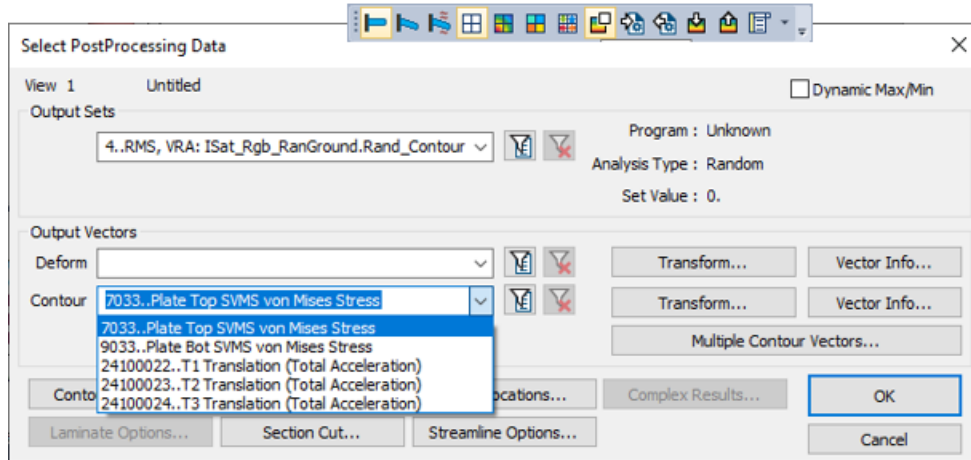

Figure 4-46. Select von Mises Stress for the first contour plot and turn off averaging.
- When the solver has finished, click the *Output* tab's **Plot Contour** button to examine the results in Femap. Use Femap's  toolbar button to open the *Select PostProcessing Data* dialog (Figure 4-46). Select *Plate Top von Mises* from the *Contour* pulldown. Click **OK** to display the contours.